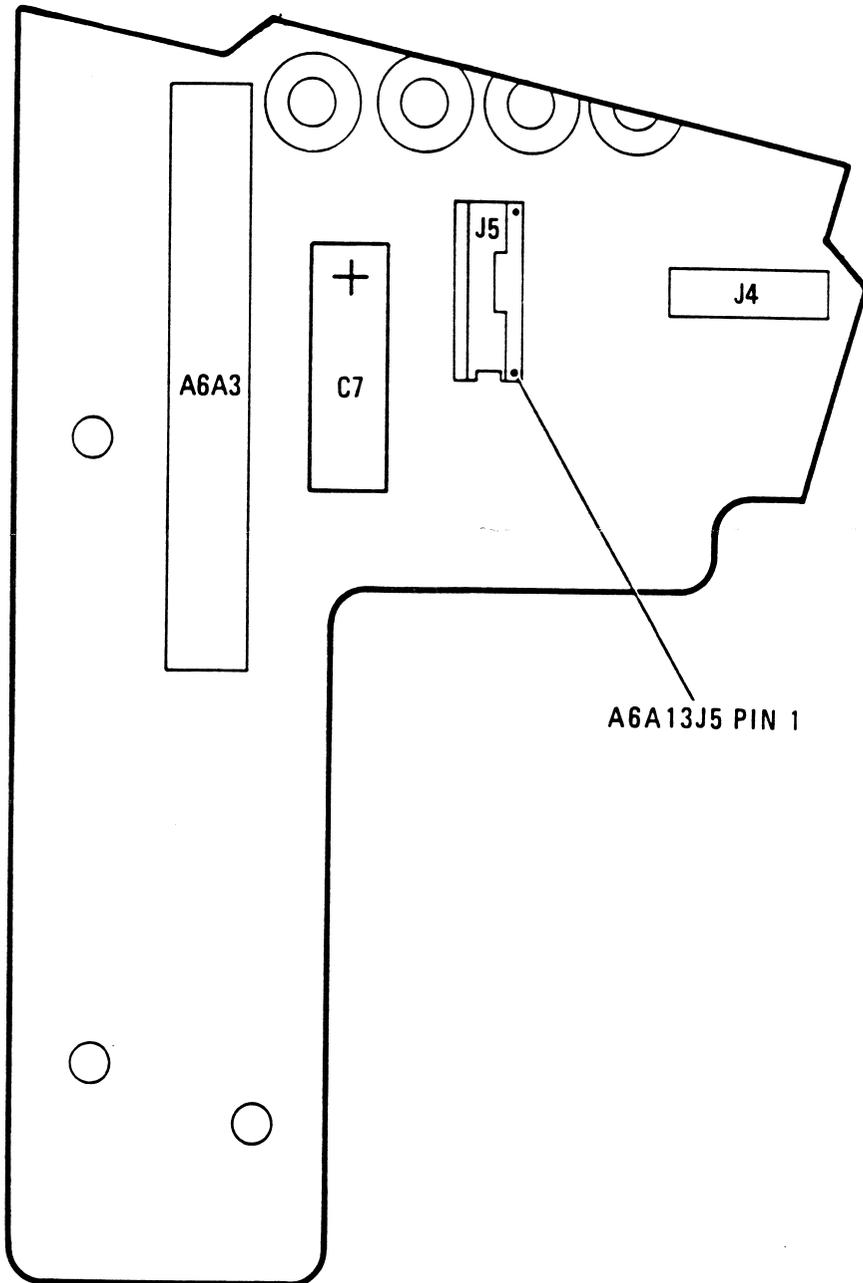

Figure 10. A6A13J5 RF Attenuator Cable Socket, Partial Component Locations
- i. Noting proper plug orientation, plug new A6A2W1 RF Attenuator Ribbon Cable into DIP socket A6A13J5 on RF Module Motherboard (Figure 10). Cable will route towards